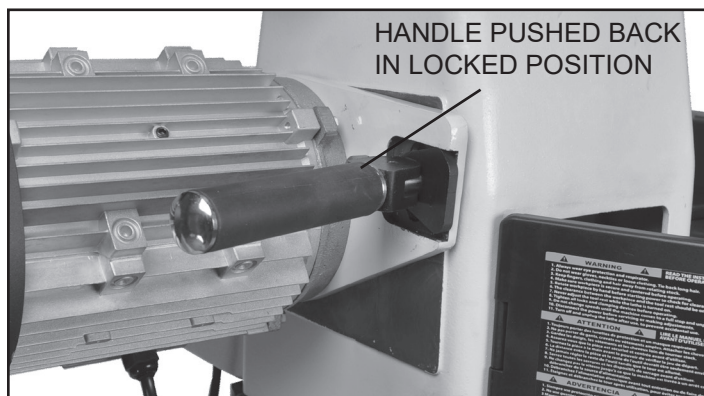

FIG. 30
3. Pull the Belt Tensioning Handle (B52) forward, away from the motor. Figure 30.
5. With the Poly-V-Belt positioned on the pulleys, raise the tensioning handle so that the weight of the motor provides the needed tension on the belt. Then secure the tensioning handle in place by pushing the handle back towards the motor. Figure 30.
3. Pull the Belt Tensioning Handle (B52) forward, away from the motor. FIG. 36. (See Page 16, Figure 30 & 31).